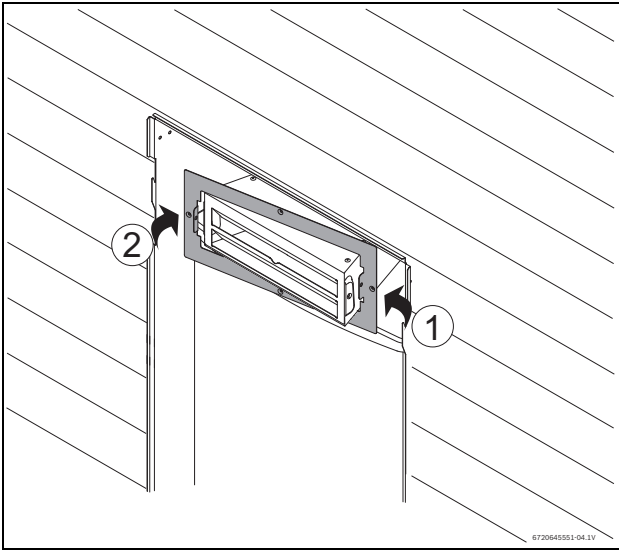

Fig. 13
- ▶ Tilt the inner exhaust flange in one direction, as shown in Fig. 13.